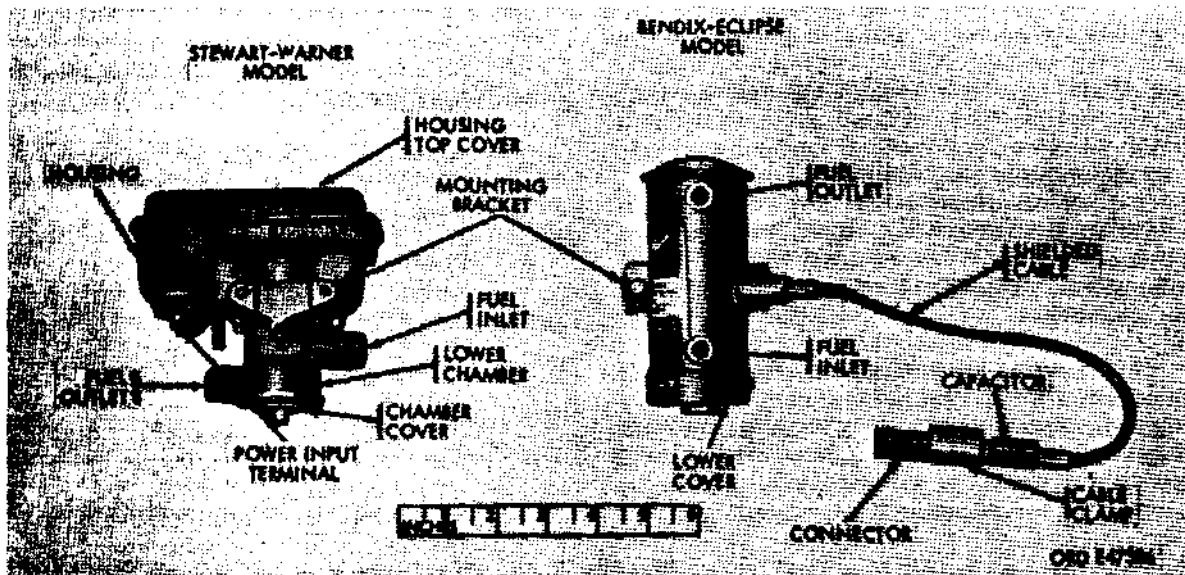

Figure 597. Electric fuel pumps
c. Two different types of electric fuel pumps are used with 978 series personnel heaters. They are the Stewart-Warner Model and the Bendix-Eclipse Model (fig. 597).